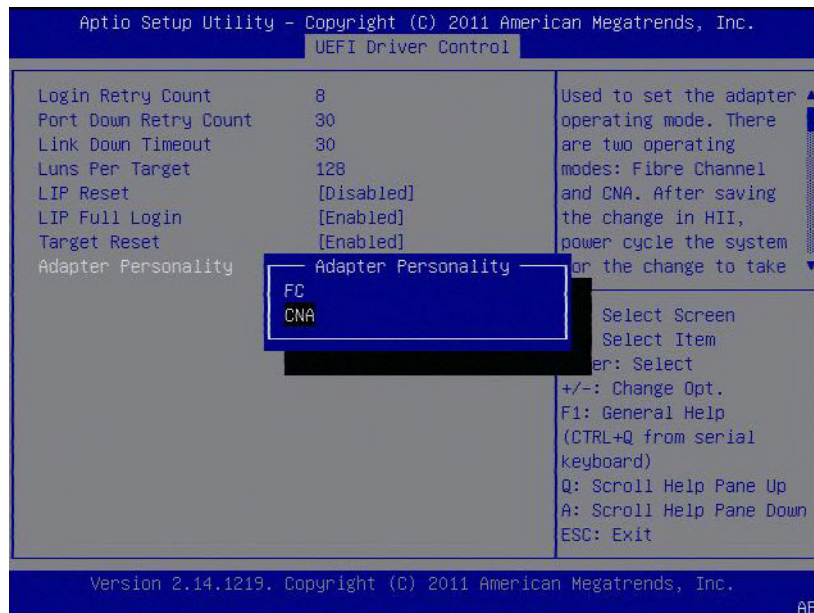

Figure 3-15. Selecting the Personality
5. Select **Adapter Personality**, and then in the Adapter Personality box, select the mode, either **FC** or **CNA** (Fibre Channel or Converged Network Adapter) as required. Figure 3-15 shows an example.